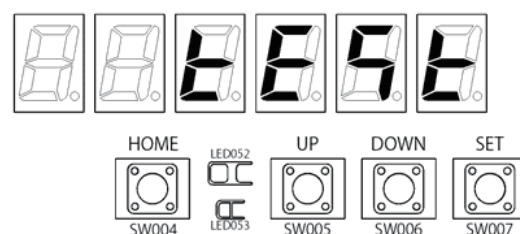

Figure 10
❸ After “ ㄱ ㄴ ㄷ ㅅ ” has been displayed, display the test run/forced setting display “ ㄷ ㅅ ㄹ ㅅ ”. While in test run/forced setting display press the SET (SW007) key. (Figure 10)
❸ After “ ㄱ ㄴ ㄷ ㅅ ” has been displayed, display test run/forced setting “ ㄷ ㅅ ㄹ ㅅ ”. In test run/forced setting display press the SET (SW007) key. (Figure 10)